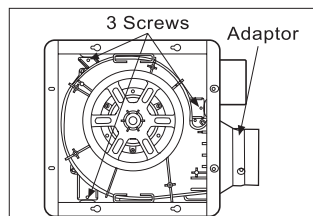

Fig. 12-1
1. Loosen 3 screws (but do not remove them from blower). (Fig. 12-1)